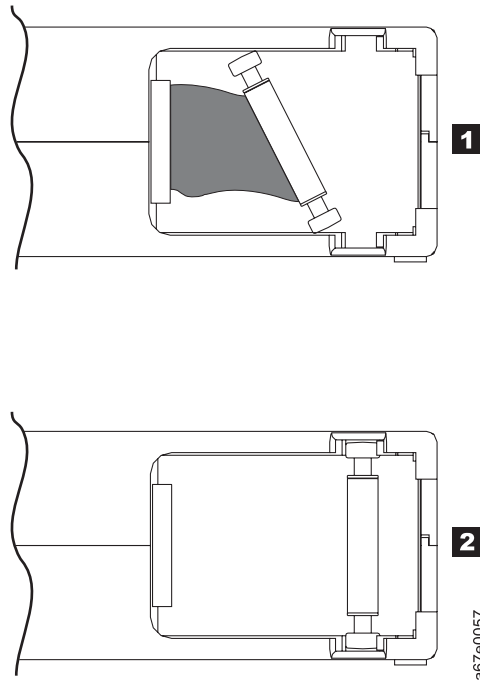

Figure 4-8. Leader pin in the incorrect and correct positions. The cartridge door is open and the leader pin is visible inside the cartridge.
- Check that the leader pin is properly seated (see **2** in Figure 4-8 on page 4-11).
- Do not drop the cartridge. If the cartridge drops, slide the cartridge door back and ensure that the leader pin is properly seated in the pin-retaining spring clips (see **2** in Figure 4-8 on page 4-11). If the leader pin has become dislodged, go to “Repositioning or Reattaching a Leader Pin” on page 4-10.
**Example: Improper Placement of Leader Pin (see Figure 4-8 on page 4-11)**
A leader pin that is improperly seated inside a cartridge can interfere with the operation of the drive. Figure 4-8 on page 4-11 shows a leader pin in the incorrect **1** and correct **2** positions.